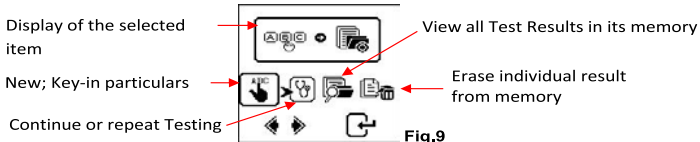

Fig.9
3. Menu screen as shown in Fig.9 below will be displayed if there is no problem on the contacts between the battery and the Analyser